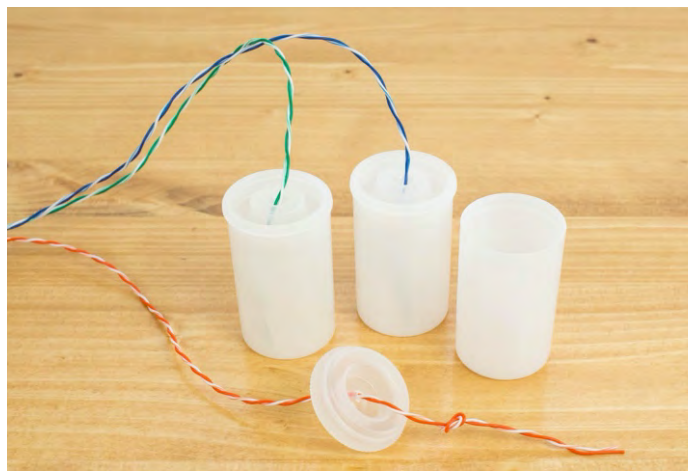

Figure 12
- ❑ Remove the caps from the thruster housings and tie a simple knot (for strain relief) approximately 1.5" from the end of each set of wires on the inside of the caps. (Figure 12)